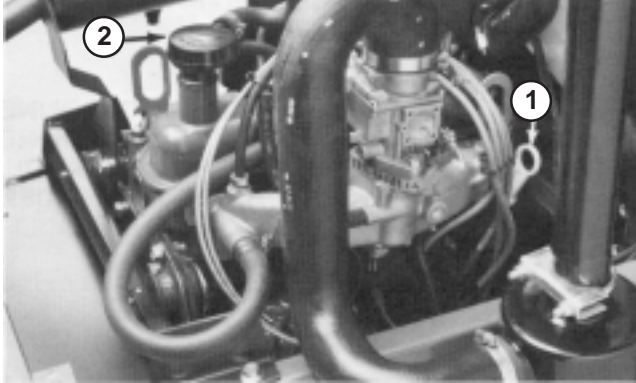

Figure 13
3. Remove dipstick and wipe it with a clean rag (Fig. 13). Push dipstick down into the tube and ensure it is fully seated. Pull dipstick out of the tube and check level of oil. If oil level is low, remove filler cap (Fig. 13) and add enough oil to raise level to top notch on dipstick. DO NOT OVERFILL.